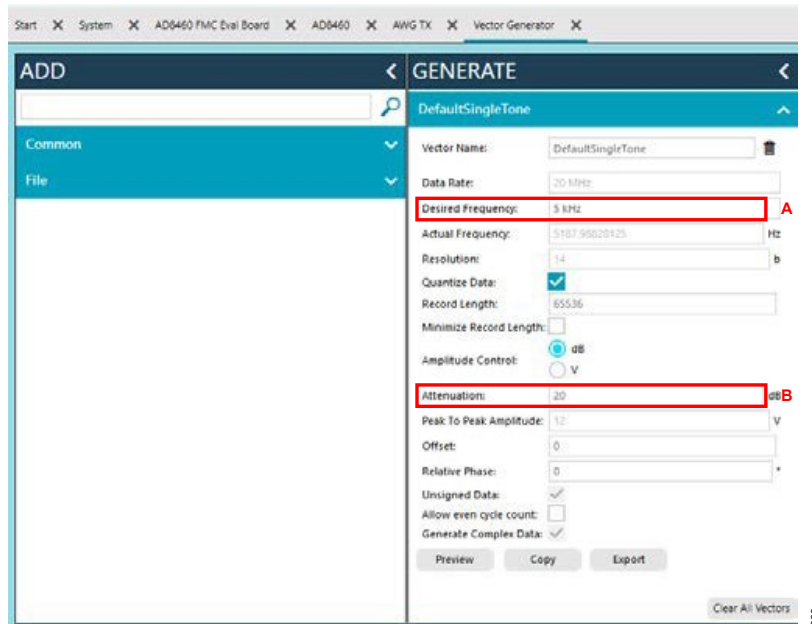

Figure 25. Generating a 5 kHz 8 Vpp Sine Wave
- a. Enter the values for **Desired Frequency** and **Attenuation** (Figure 25) of the sine wave. The vector **DefaultSingleTone** shows the values for 8 Vpp sinewave at 5 kHz. Amplitude is 80 Vpp for 0 dB attenuation, 40 Vpp for 6 dB, 20 Vpp signal for 12 dB, 8 Vpp for 20 dB, etc.